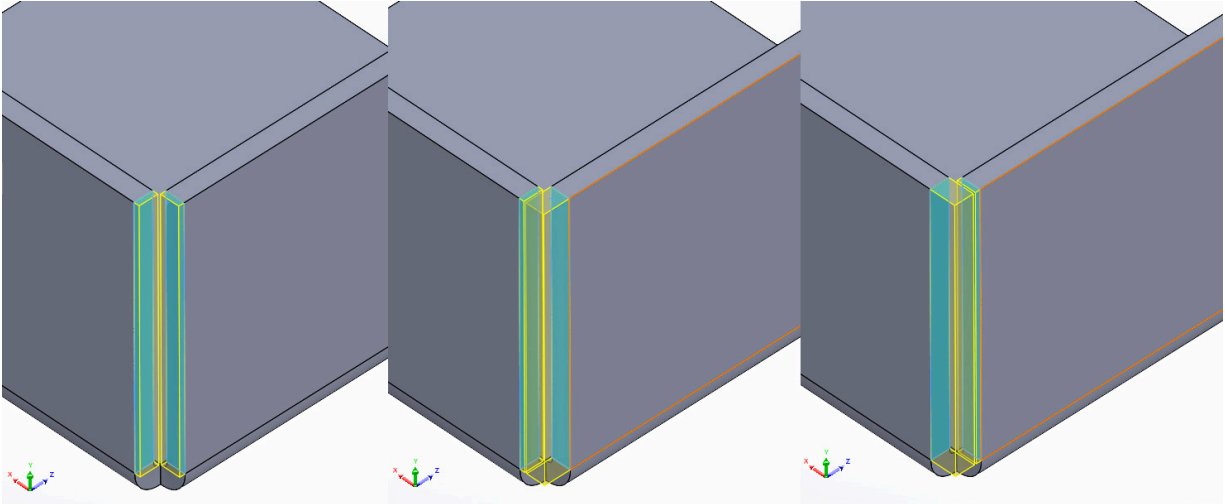

Figure 9.4: Corner Type options; from left to right: Butt, Overlap, Underlap
- **Butt:** This extends each face slightly, so that the gap is reduced but the flanges don't overlap each other (Figure 9.4, left). The **Gap distance** can be set using a numerical value.
- **Overlap:** This extends one of the flanges so that it overlaps the corresponding one (Figure 9.4, center). For this option, we can set the **Gap distance** and also the **Overlap/underlap ratio**. This controls how much the longer flange overlaps the shorter one. A value of 1 will mean the overlap covers the whole of the flange, whereas a value of 0.5 (for example) means that the overlap will cover half of the flange.
- **Underlap:** This is very similar to the **Overlap** option but the flanges are reversed (Figure 9.4, right):